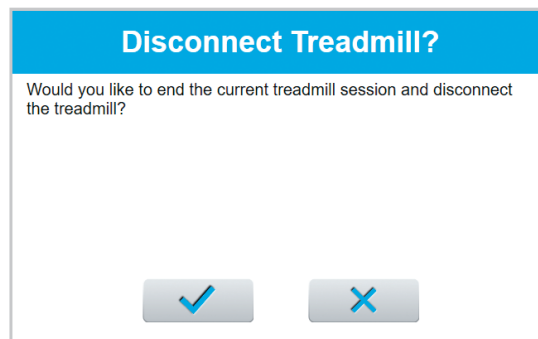

Figure 6-18: Disconnect Treadmill Confirmation Dialog Box
6. To end the treadmill session, press the Stop button and confirm on the dialog box. See Figure 6-18.